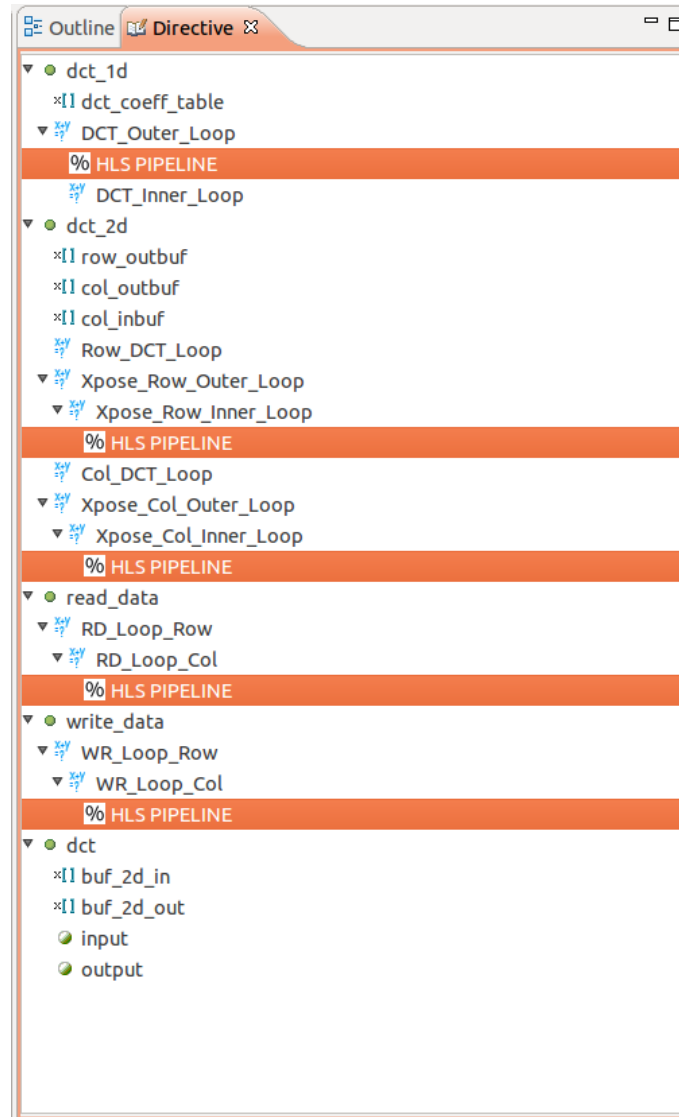

Figure 3.10.: Directive tab for solution3.
4. Directives tab should now look like in Figure 3.10.